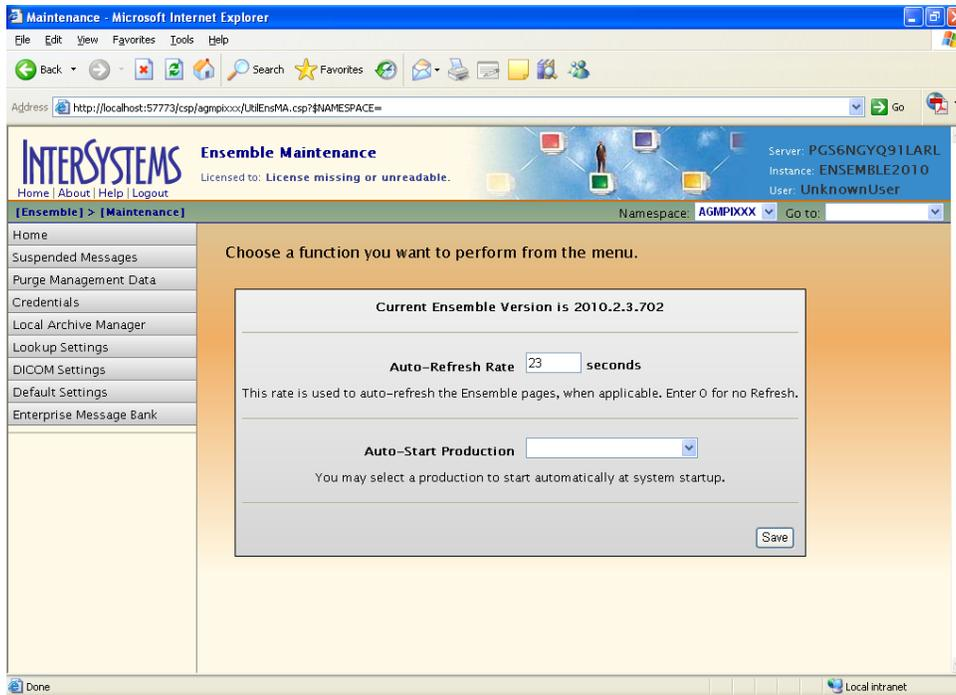

Figure 5-26: Ensemble Maintenance page
1. On the **Ensemble Management Portal** page, click **Maintenance** to display the **Ensemble Maintenance** page, as shown in Figure 5-26.